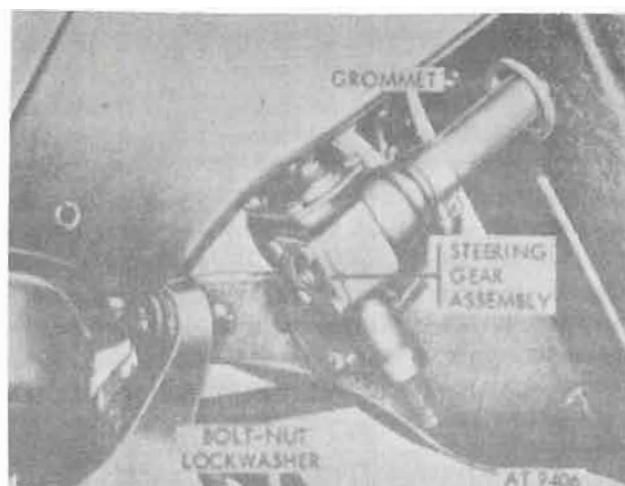

Figure 16-2. Steering gear and attaching hardware (M151, M151A1, M151A1C, and M718 vehicles).
- a. Remove three bolts, nuts, and lockwashers securing steering gear to frame side rail (fig. 16-2).
- b. Remove rubber grommet from toe panel and slide it down column (fig. 16-2).